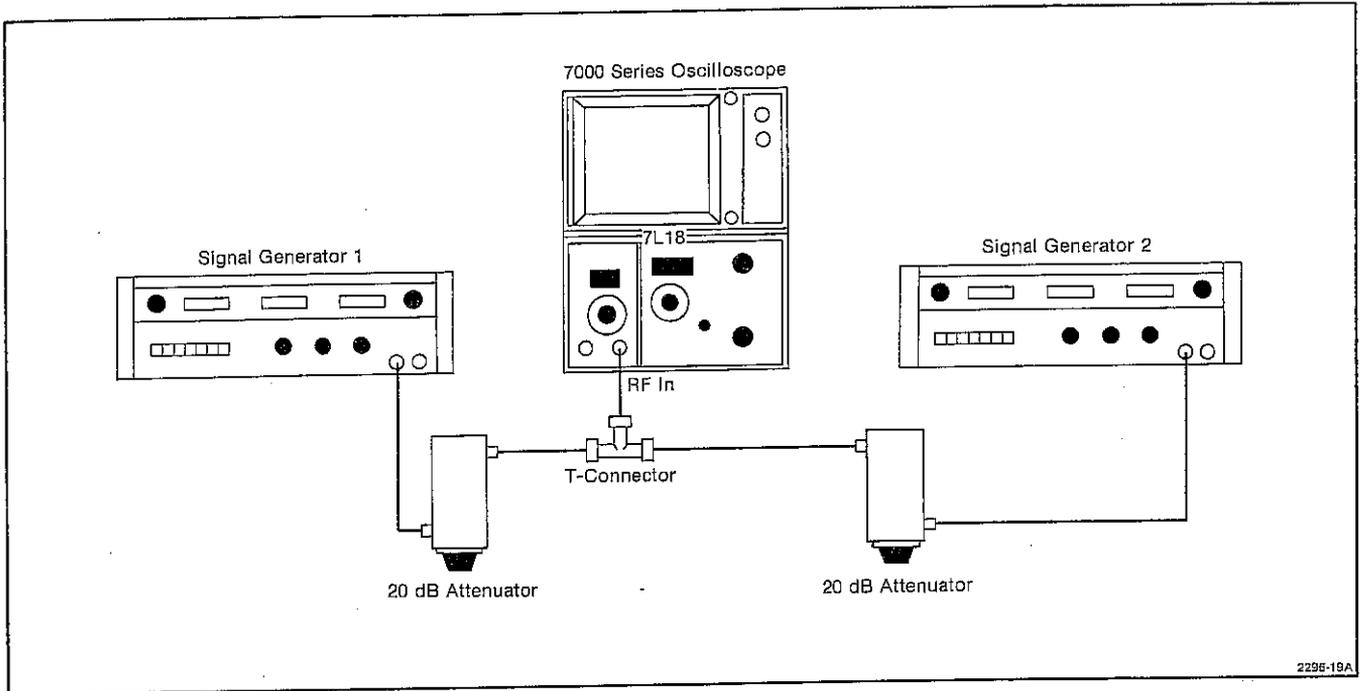

Fig. 4-11. Intermodulation Distortion Check Test Setup.
a. Connect the test setup as shown in Fig. 4-11. Set the front panel controls as follows: